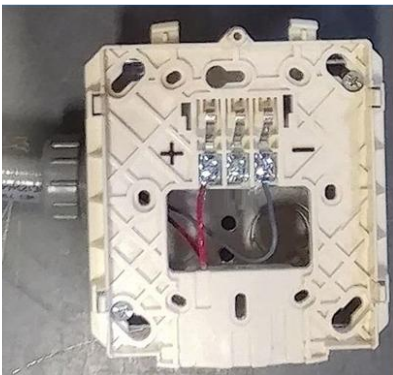

Figure 12.9
11. See **Figure 12.9**. Connect wires at additional Signal Horns. **IMPORTANT! Do not branch Signal Horn circuit. Run circuit from the first Signal Horn to the second Signal Horn, then the second Signal Horn to the third, and so on.**